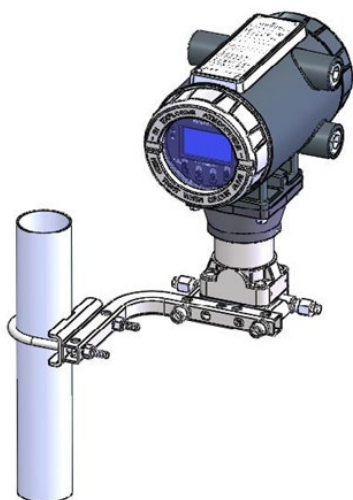

Figure 6. FB1100 using Coplanar Mount
2. The FB1100 mounts either directly to a manifold on the pipeline or indirectly on a two-inch pipe or pole. See Figures 6 and 7.